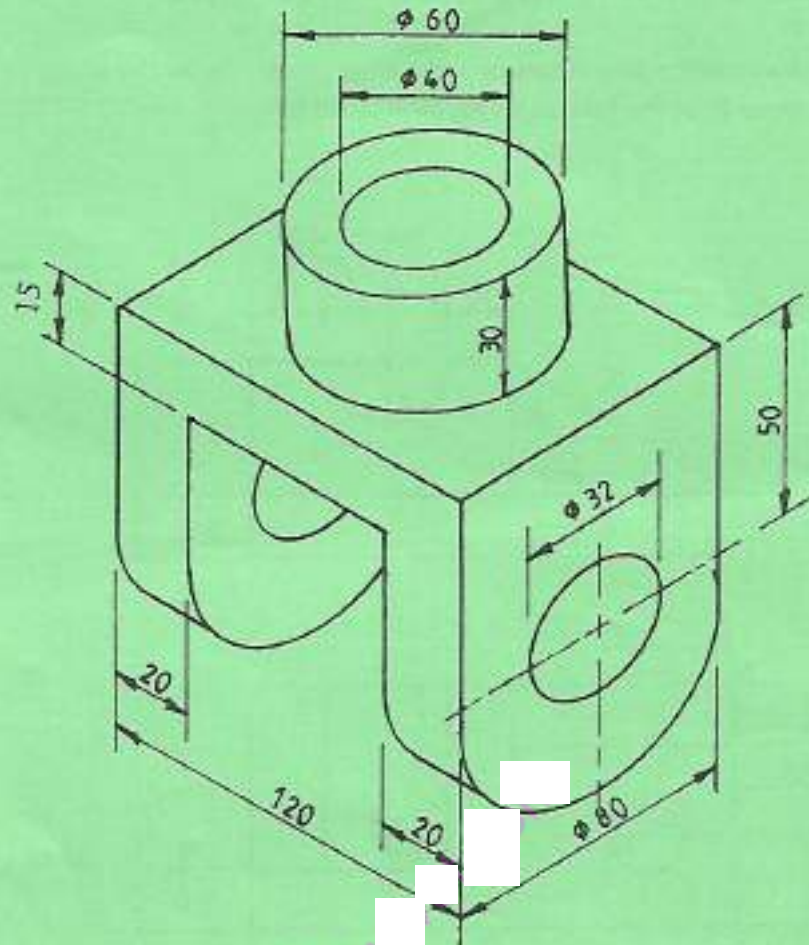

Fig. 5
7. Figure 5 shows a pictorial view of a yoke. Draw half size the yoke in isometric projection. (15 marks)